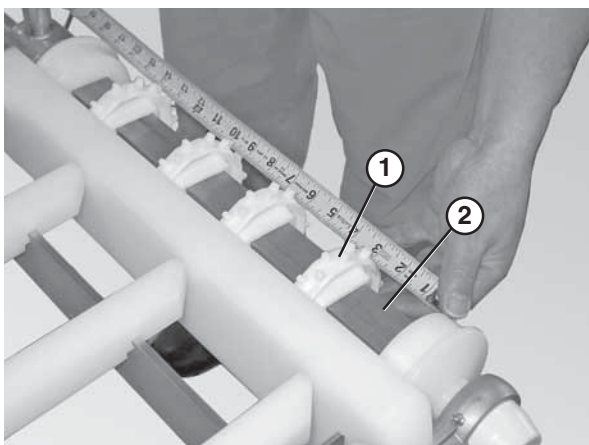

Figure 43
2. Evenly space the sprockets (**Figure 43, item 1**) along the drive spindle (**Figure 43, item 2**).
3. Wrap the belt around the conveyor, making sure the sprocket teeth (**Figure 43, item 1**) have engaged the belt.